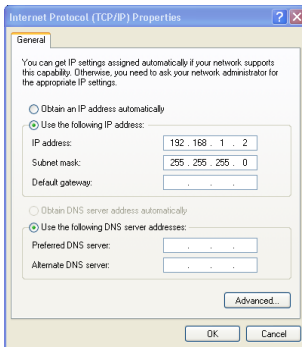

Figure 7: Internet Protocol (TCP/IP) Properties Window
5. Select **Use the following IP Address**, and fill in the details as shown in Figure 7.